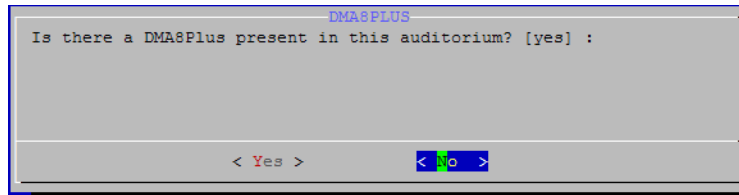

Figure 3-28 DMA8Plus Screen
9. Press <Enter> to select **No** (default) if a DFC100 is not installed or press <Tab> to select **Yes** if it is installed (for Dolby 3D), then press <Enter>. The **DMA8Plus** screen appears, as shown in Figure 3-28.